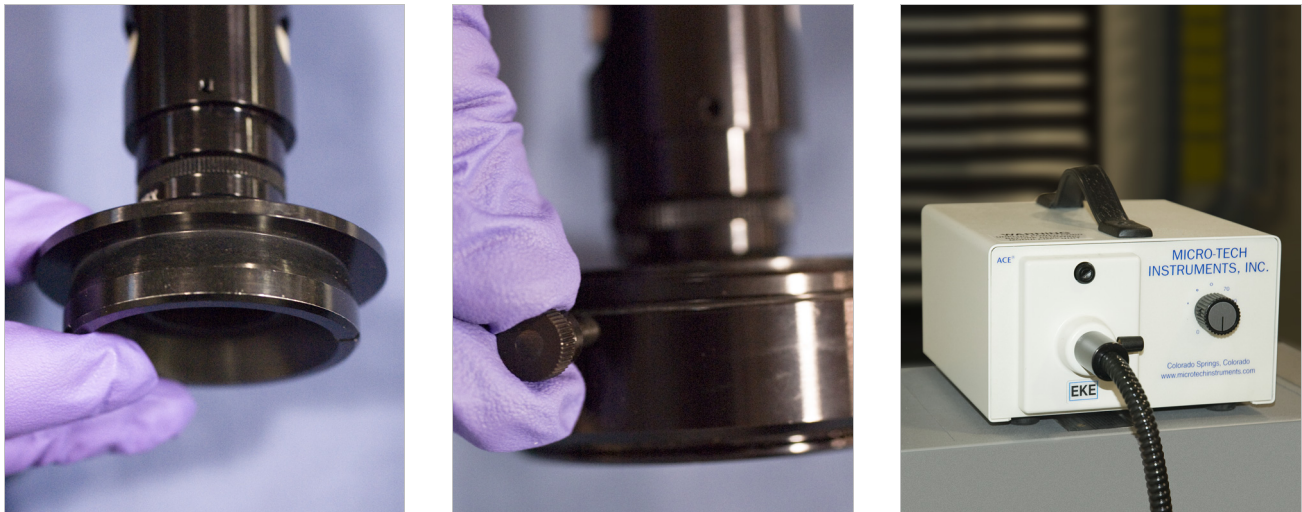

FIGURE 3-24 Left: Installing the ring light onto the adapter; Middle: Tighten the ring light thumbscrews; Right: Fiber optic cable attached to the light source
- a. Screw the light source adapter onto the bottom of the microscope, using the three screws supplied (FIGURE 3-24). Finger tighten only.
- b. Insert the fiber optic cable into the light source. Finger tighten only (FIGURE 3-24).